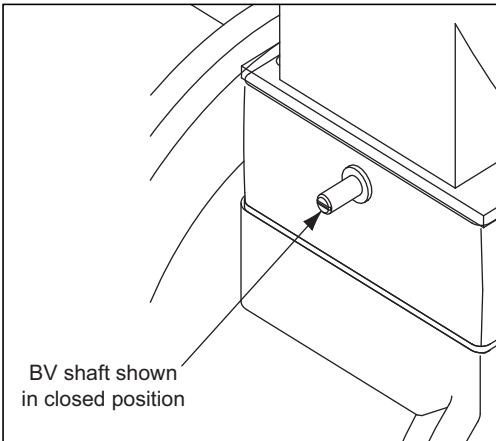

Figure 4.5. Air Butterfly Valve Shaft
- b. There is a slot in the end of the butterfly valve shaft that is parallel to the air damper. This slot is used for visual indication of the butterfly valve position. The butterfly valve is closed when the shaft slot is perpendicular to the direction of air flow through the butterfly valve. See Figure 4.5.